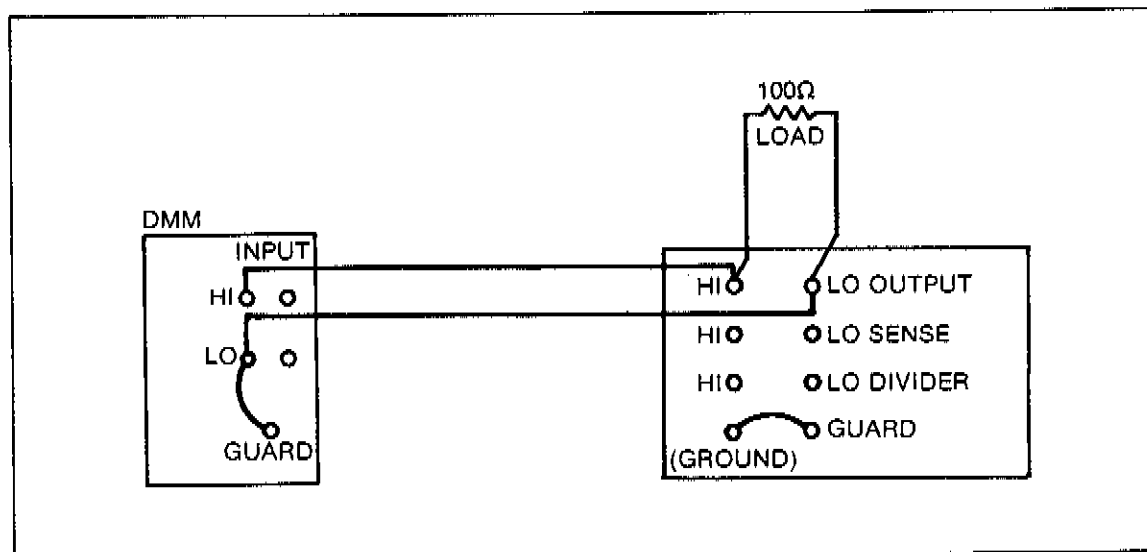

Figure 3-8. Current Limit Test
2. Connect the equipment as shown in Figure 3-8, but with the load disconnected.
4. Allow 5 seconds for the output to settle, then apply the load as shown in Figure 3-8. Verify that the output does not trip.
6. Allow 5 seconds for the output to settle, then apply the load as shown in Figure 3-8. Verify that the output does trip.